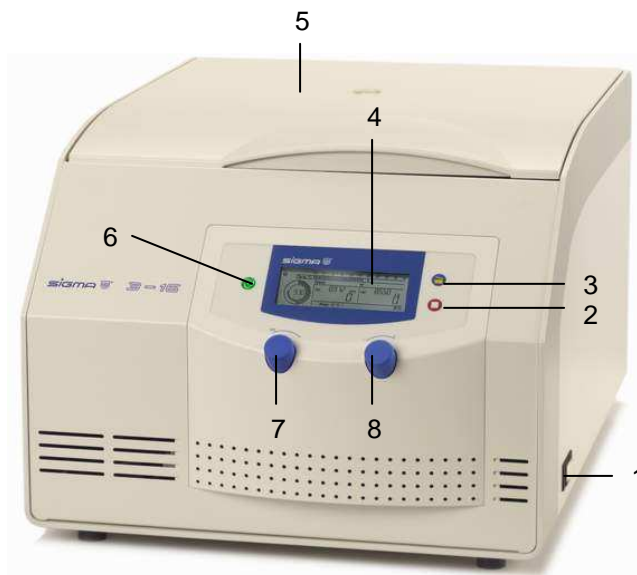

Fig. 5.1: Total view of the centrifuge
- Press the mains power switch on the right side of the front (see Fig. 5.1, page 24).